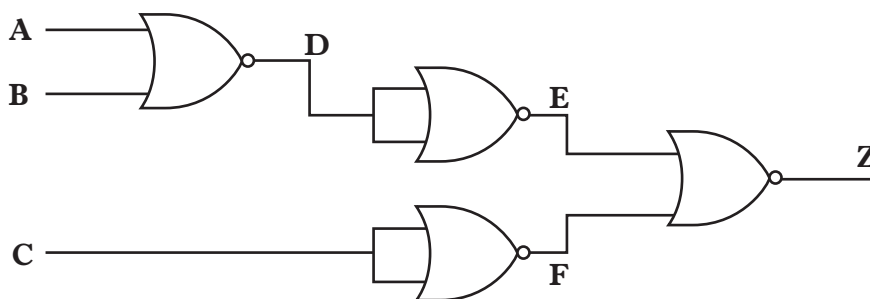

Figure Q12(b)
- (c) Demonstrate whether the logic sub-system shown in Figure Q12(b) is equivalent to the logic sub-system shown in Figure Q12(a). 3